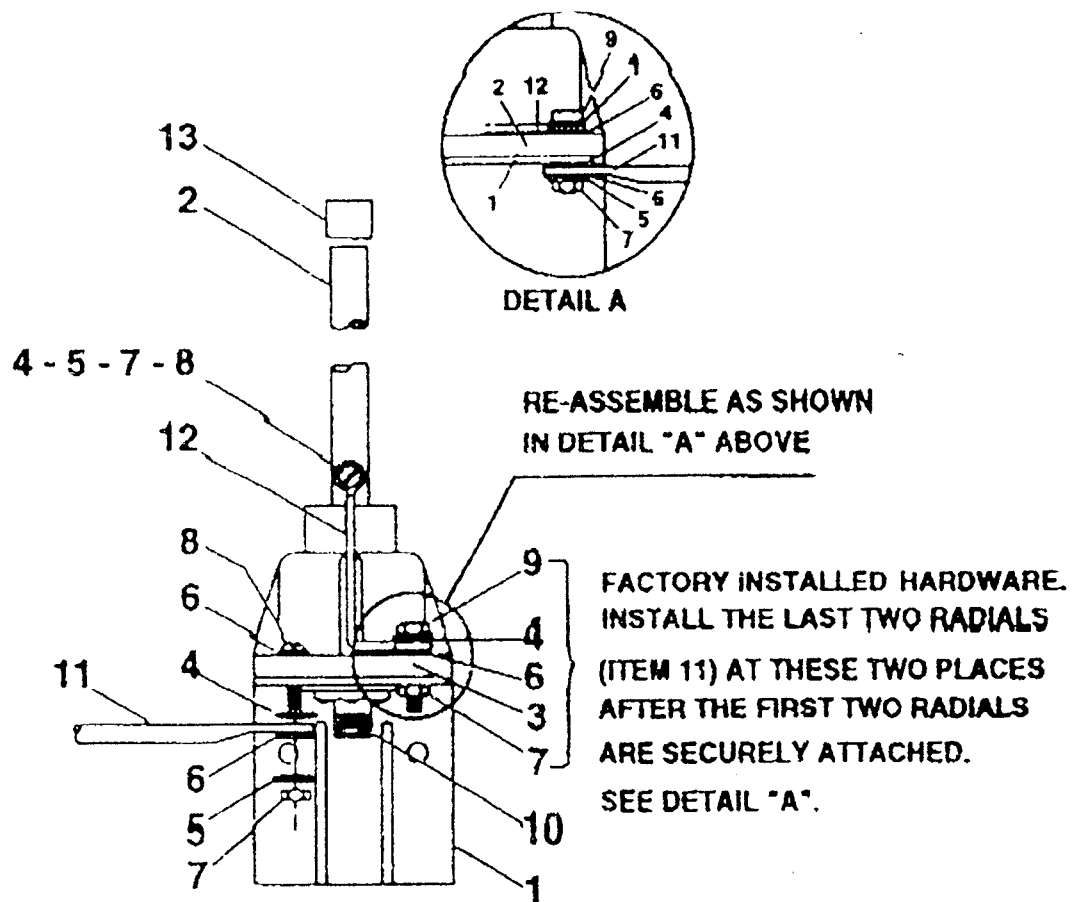

Figure 1
Remove the four (4) radials (Item 11), from the shipping container and attach two of the radials to the base bracket (Item 1) at the two open spaces (where there is no factory installed hardware). Use the #10 x 3/4" screw (Item 8), nut (Item 7), flatwasher (Item 6), internal lock-washer (Item 5), and external lockwasher (Item 4) as shown in Figure 1. Tighten hardware securely.